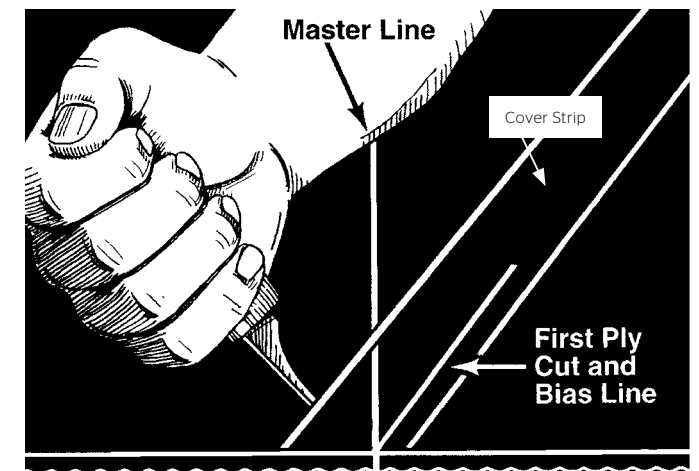

Figure 11-3: Showing master line and top cover insert cut lines.
- Lay out the cover strip for removal. Draw one line parallel to and approximately 1/2 in. (13mm) from the bias line and on the splice side. Draw a second line on the belt side of the bias line but at a distance of 2 in. (50 mm) (Fig 11-3).
- Cut along the two covers cut lines just made. The line on the belt side of the bias line should be skived per Fig. 11-3. The other cut may be vertical. Do not cut too deep. If you feel fabric, you have damaged the belt.